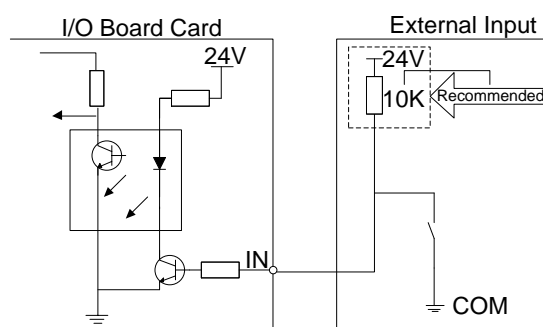

Fig. 3-2 Connection between Binary Input Signal and Photoelectric Switch (or Proximity Switch)
The binary input signal can also be connected with a photoelectric switch or proximity switch of NPN (NO) or NPN (NC) type. The connection diagram is shown below in Fig. 3-2: